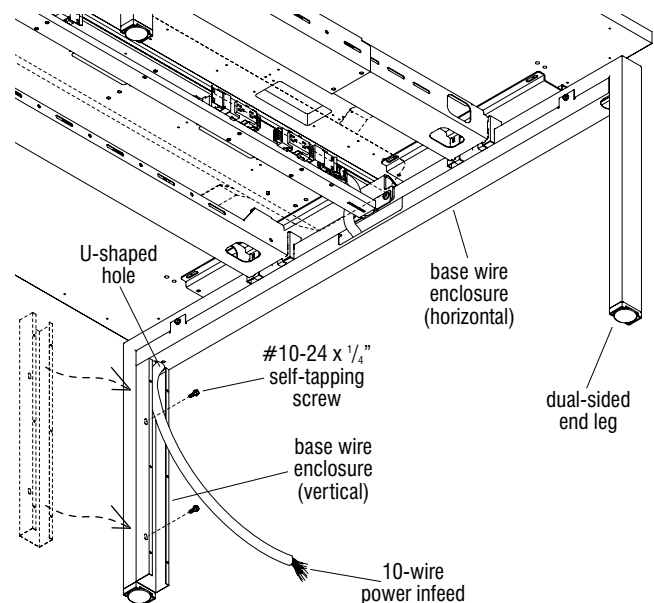

Figure 54
5. Position the base wire enclosure (vertical) back up against the leg, aligning the mounting holes of the cover with the pre-drilled mounting holes in the leg. Make sure the wire enclosure is straight and secure it to the inside of the leg using two #10-24 x  $\frac{1}{4}$ " screws. Take care to not over tighten (Figure 54).